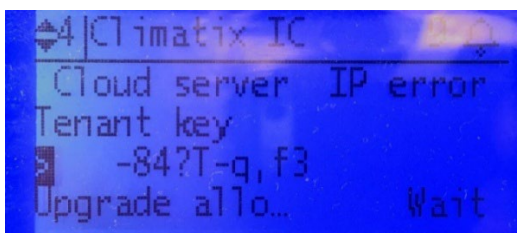

Figure no. 23
12. Using the navigation wheel go down to **Tenant key** (key sensitive) and check if key is set to: **-84?T-q,f3** (see figure no. 23)